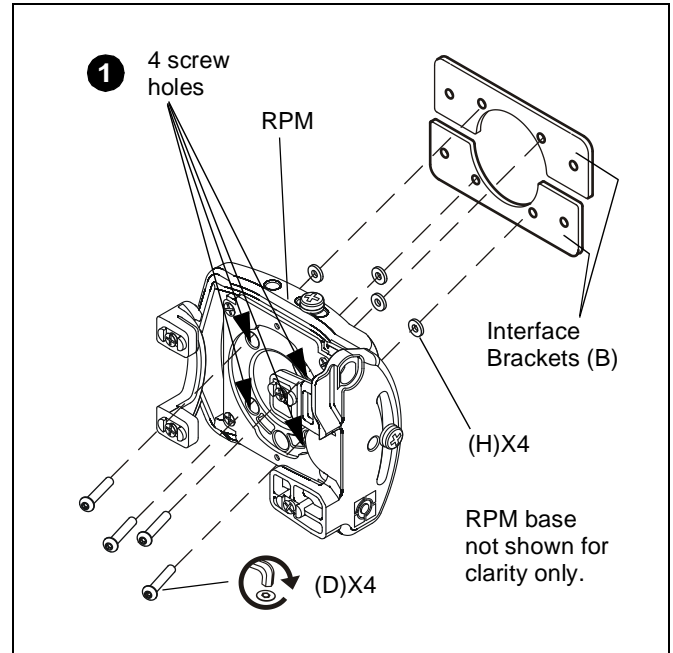
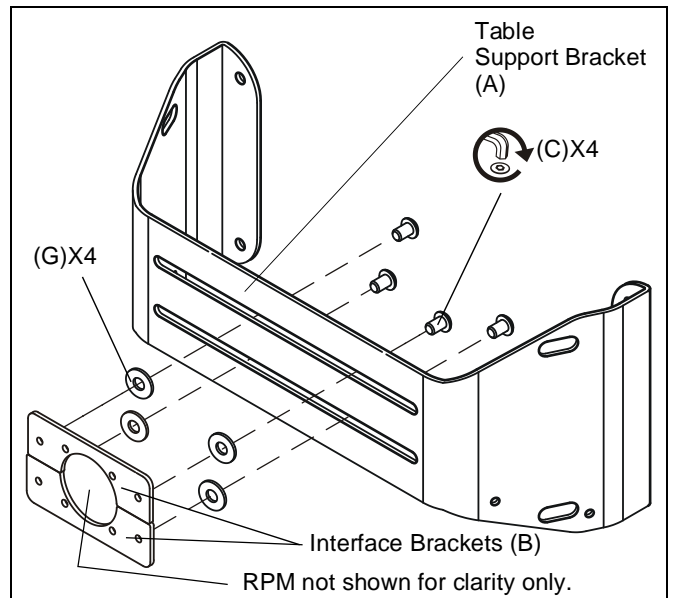

Figure 2
Figure 3
1. Place RPM on its top so that four screw holes are visible through the square in the RPM base. (See Figure 2)
2. Insert four 1/4"-20X1-1/2" (D) button head cap screws into the bottom of the RPM. (See Figure 2)
**NOTE:** The RPM base is not shown in Figure 2 for clarity only. It should NOT be removed for this installation process.
3. Place four nylon spacers (H) onto the screws as shown in Figure 2.
4. Tighten the screws through the nylon spacers and into the two interface brackets (B). (See Figure 2)
5. Turn the table support bracket (A) on its side.
6. Insert four 1/4"-20X3/8" (C) button head cap screws from the underside of the table support bracket. (See Figure 3)
7. Place a 1/4" flat washer (G) onto each screw.